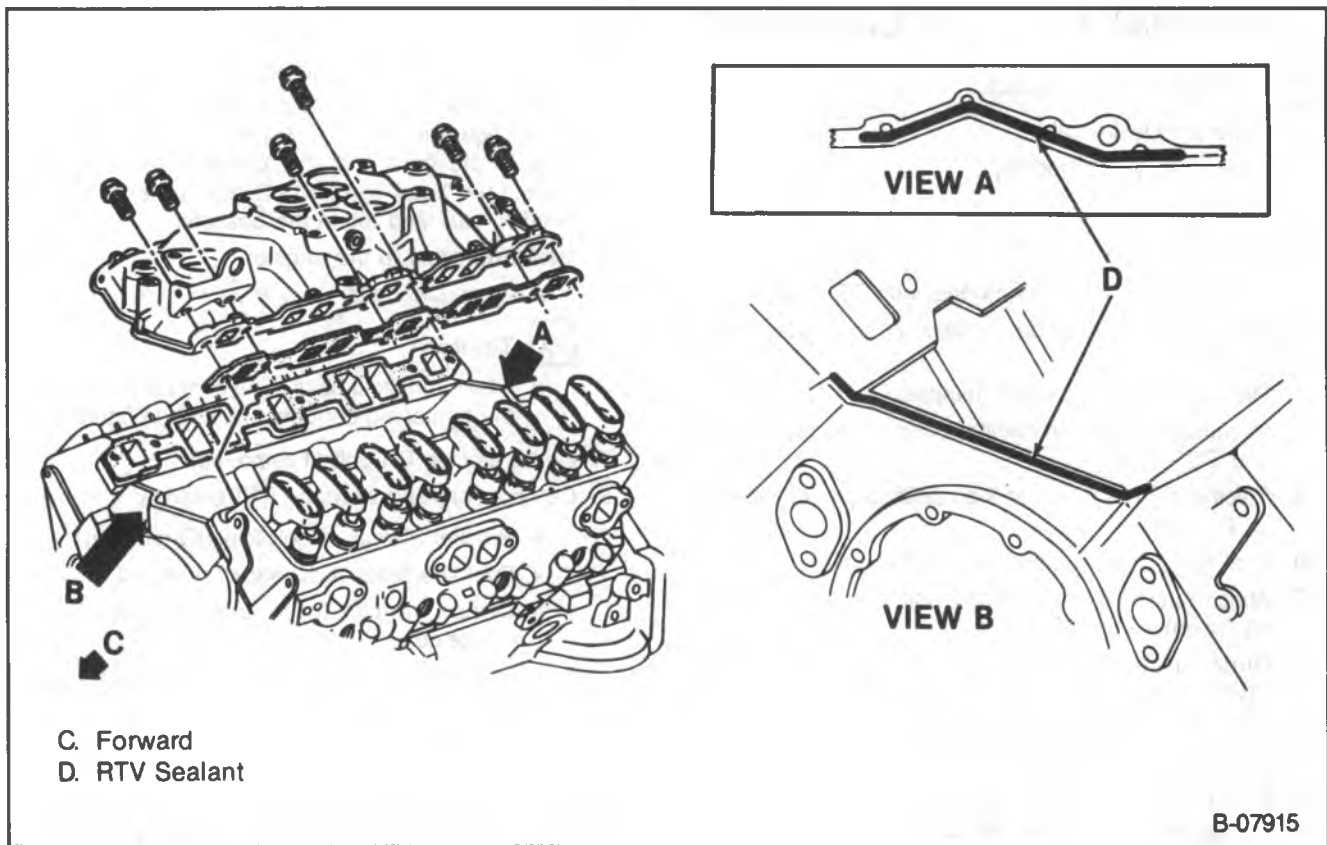

Figure 8 — Intake Manifold
Install or Connect (Figures 8 and 9)
2. RTV to the front and rear sealing surfaces on the block (figure 8). Apply a 5 mm (3/16-inch) bead of RTV to the front and rear of the block as shown. Extend the bead 13 mm (1/2-inch) up each cylinder head to seal and retain the gaskets.